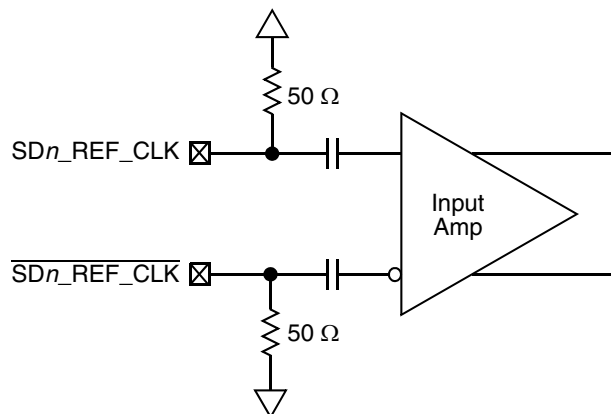

Figure 45. Receiver of SerDes Reference Clocks
Figure 45 shows a receiver reference diagram of the SerDes reference clocks.
- The $\overline{SDn_REF_CLK}$ and SDn_REF_CLK are internally AC-coupled differential inputs as shown in Figure 45. Each differential clock input ($\overline{SDn_REF_CLK}$ or SDn_REF_CLK) has a 50- Ω termination to SGND_SRDSn (xcorevss) followed by on-chip AC-coupling.